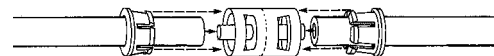

Figure 4-19b. Insert Tubing Ends
7. Insert tubing ends onto connector (**Figure 4-19b**).